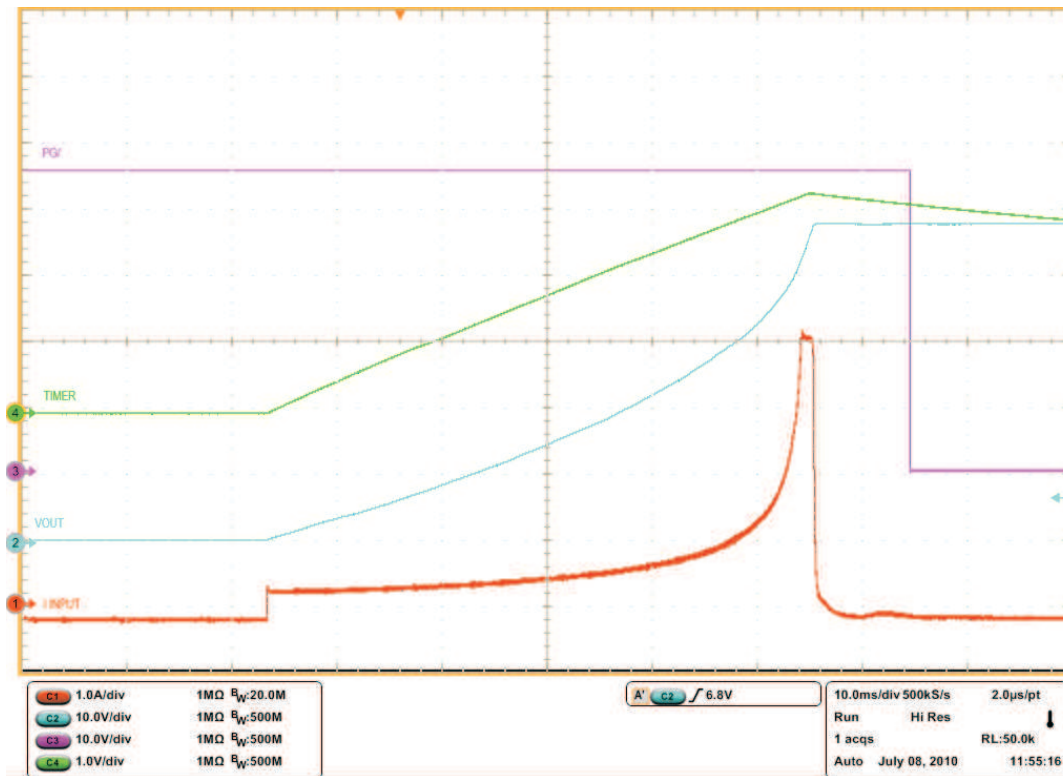
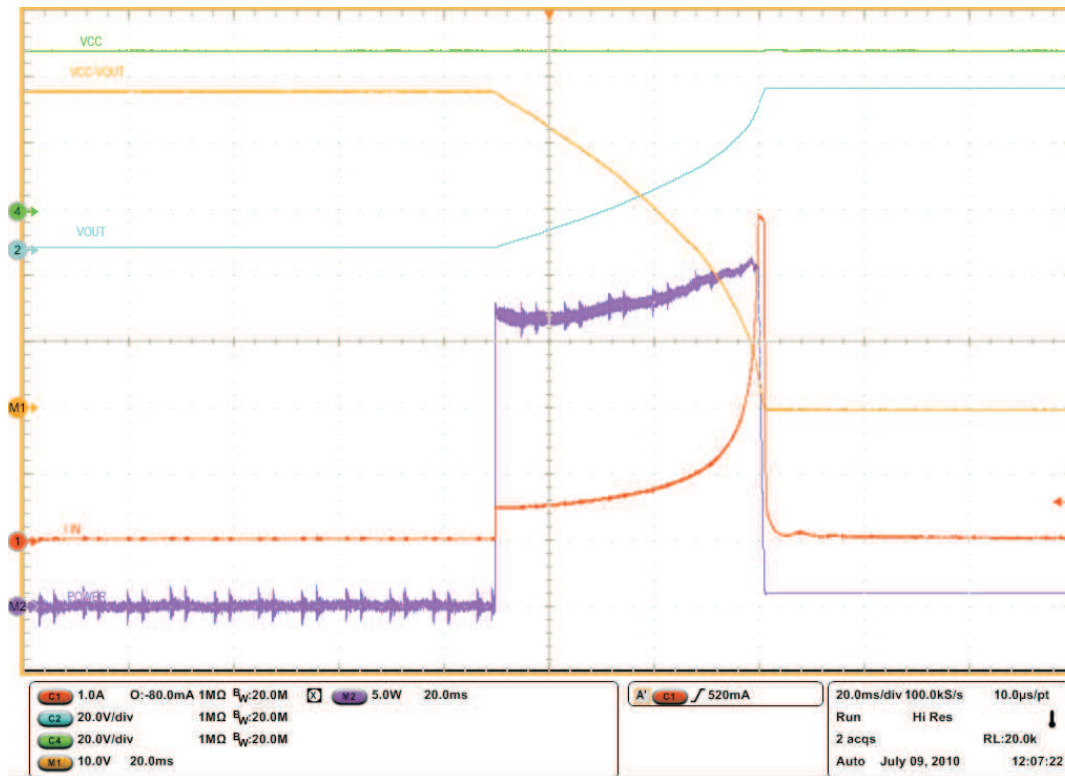
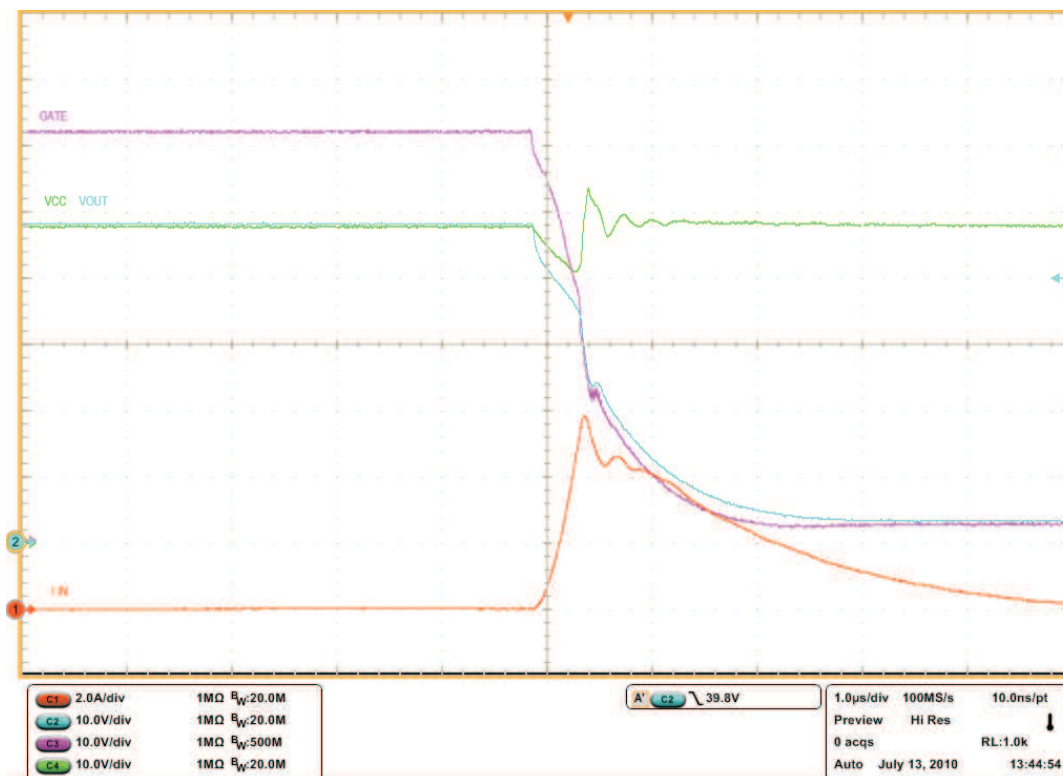

Figure 13. Basic Board Insertion
Figure 14. Computation of the External FET Stress During Startup
Figure 17. Current Limit Onset
A capacitor may be tied from PROG to ground to alter the natural constant power inrush current shape. If properly designed, the effect is to cause the leading step of current in Figure 13 to look like a ramp. It is not recommended that this mechanism be used to achieve a long and low ramp inrush current because the power limiting accuracy is lower at  $V_{\text{PROG}} < 0.4$  V. PROG is internally pulled to ground whenever UVEN, POR, or UVLO are not satisfied or the TPS2492 is latched off. This feature serves to discharge any capacitance connected to the pin. Do not apply voltages greater than 4 V to PROG. If the constant power limit is not used, PROG should be tied to VREF through a 47-k $\Omega$  resistor.
The TPS2492/93 features power-limiting FET protection that allows independent control of current limit (to set maximum full-load current), power limit (to keep FET in its safe operating area), and overload time (to control temperature rise). The power limiting feature controls the  $V$  and  $I$  across the FET to protect it, and does not control load power. This protection is a specialized form of foldback output limiting. Given a constant power dissipation, computation of peak junction temperature is straight forward. The TPS2393 provides a small operating duty cycle into a short, reducing the average temperature rise of the FET to levels similar to normal operation in many systems. This prevents overheating and failure with prolonged exposure to an output short. The typical application circuit, and oscilloscope plots of Figure 13 and Figure 17 demonstrate many of the functions described above.
### Board Plug-In (Figure 13)
Only the bypass capacitor charge current and small bias currents are evident when a board is first plugged in as seen in Figure 13. The TPS2492/93 is held inactive with GATE, PROG, and TIMER held low, and with  $\overline{PG}$  and  $\overline{FLT}$  open drain, for less than 1 ms while internal voltages stabilize. Then GATE, PROG, TIMER,  $\overline{FLT}$  and  $\overline{PG}$  are released and the part begins sourcing current to the GATE pin because UVEN is high and OV is low. The external FET begins to turn on while the voltage across it,  $V_{(SENSE-OUT)}$ , and current through it,  $V_{(VCC-SENSE)}/R_{SENSE}$ , are monitored. Current initially rises to the value which satisfies the power limit engine ( $P_{LIM}/V_{VCC}$ ) since the output capacitor was discharged. The shape of the input current waveform shows the operation of the FET power limit. In this case, the 5-A current limit is never reached as the output reaches full charge. This is likely due to the limited gate slew rate.
### TIMER and $\overline{\text{PG}}$ Operation (Figure 13)
The TIMER pin charges  $C_T$  as long as limiting action continues, and discharges at a 1/10 charge rate when limiting stops. If the voltage on  $C_T$  reaches 4 V before the output is charged, the external FET is turned off and either a latch-off or restart cycle commences, depending on the part type. The open-drain  $\overline{\text{PG}}$  output provides a deglitched end-of-charge indication which is based on the voltage across the external FET.  $\overline{\text{PG}}$  is useful for preventing a downstream DC-to-DC converter from starting while  $C_O$  is still charging.  $\overline{\text{PG}}$  goes active (low) about 9 ms after  $C_O$  is charged. This delay allows the external FET to fully turn on and any transients in the power circuits to end before the converter starts up. The resistor pull-up shown on pin  $\overline{\text{PG}}$  in the Typical Application Circuit only demonstrates operation; the actual connection to the converter depends on the application. Timing can appear to terminate early in some designs if operation transitions out of the power limit mode into a gate charge-rate limited mode at low  $V_{\text{DS}}$  values. This effect sometimes occurs because gate capacitances,  $C_{\text{GD}}$  and  $C_{\text{GS}}$ , are nonlinear with applied voltage, getting larger at smaller voltage. This can be seen in Figure 13.
### Action of the Constant Power Engine (Figure 14)
The calculated power dissipated in the external FET,  $V_{DS} \times I_D$ , is computed under the same startup conditions as Figure 13. The current of the external FET, labeled  $I_{IN}$ , initially rises to the value that satisfies the constant power engine; in this case it is  $25\text{ W} / 48\text{ V} = 0.52\text{ A}$ . The 25-W value is programmed into the engine by setting the PROG voltage using R4 and R5.  $V_{DS}$  of the external FET, which is calculated as  $V_{(SENSE-OUT)}$ , falls as  $C_O$  charges, thus allowing the external FET drain current to increase. This is the result of the internal constant power engine adjusting the current limit reference to the GATE amplifier as  $C_O$  charges and  $V_{DS}$  falls. The calculated device power in Figure 14, labeled POWER, is seen to be reasonably constant within the limitations of circuit tolerance and acquisition noise. A fixed current limit is implemented by clamping the constant power engine output to 50 mV when  $V_{DS}$  is low. This protection technique can be viewed as a specialized form of foldback limiting; the benefit over linear foldback is that it yields the maximum output current from a device over the full range of  $V_{DS}$  while still protecting the device.
**Response to a Hard Output Short (Figure 15, Figure 16, and Figure 17)**
The TPS2492/93 responds rapidly to a short circuit as seen in Figure 17. The falling OUT voltage is the result of the external FET and  $C_O$  currents through the short circuit impedance. The internal GATE clamp causes the GATE voltage to follow the output voltage down and subsequently limits the negative  $V_{GS}$ . The  $I_{IN}$  waveform includes current into an input 47  $\mu\text{F}$  capacitor. M1 drain current has a peak value in excess of the waveform, and terminates when  $V_{GATE}$  approaches  $V_{OUT}$ . The rapidly rising fault current overdrives the GATE amplifier causing it to overshoot and rapidly turn the external FET off by sinking current to ground. At a time beyond the extent of Figure 17, but within the scope of Figure 15, the FET will be slowly turned back on as the GATE amplifier recovers. The operating point will settle to the current or power limit, and finally the TIMER will expire and the FET will turn off.
Limited input voltage overshoot appears in Figure 17 because a local 47- $\mu\text{F}$  bypass capacitor and 1000  $\mu\text{F}$  distribution capacitor were used. The input voltage overshoots as the input current abruptly drops due to the stored energy in the input wiring inductance. The exact waveforms seen in an application depend upon many factors including parasitics of the voltage distribution, circuit layout, and the short itself.